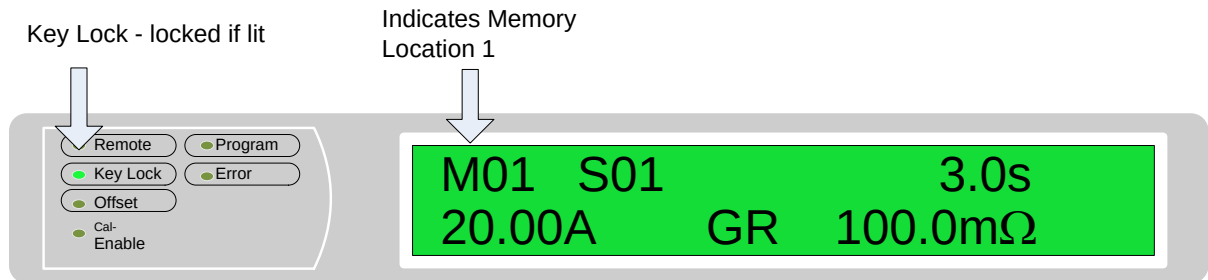

Figure 3 Key Lock / program indication
- 2.1. Verify that the unit is ready to test, by verifying that the Key Lock indicator is illuminated and M01 displayed (reference Figure 3). If not, do not use the analyzer, label the analyzer accordingly and notify Test Engineering immediately.